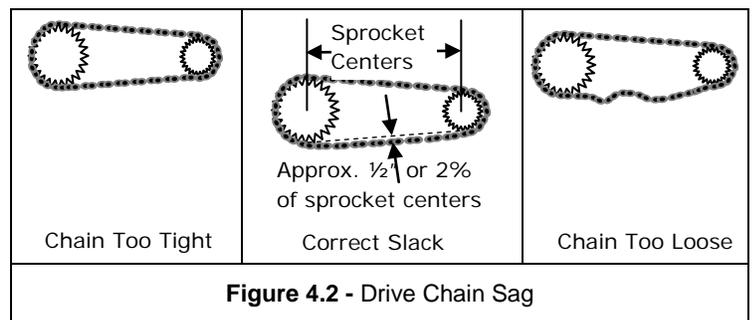

Figure 4.2 - Drive Chain Sag
- Chain should have sag on the slack side per *Figure 4.2*. Measure the sag half way between the two sprockets.